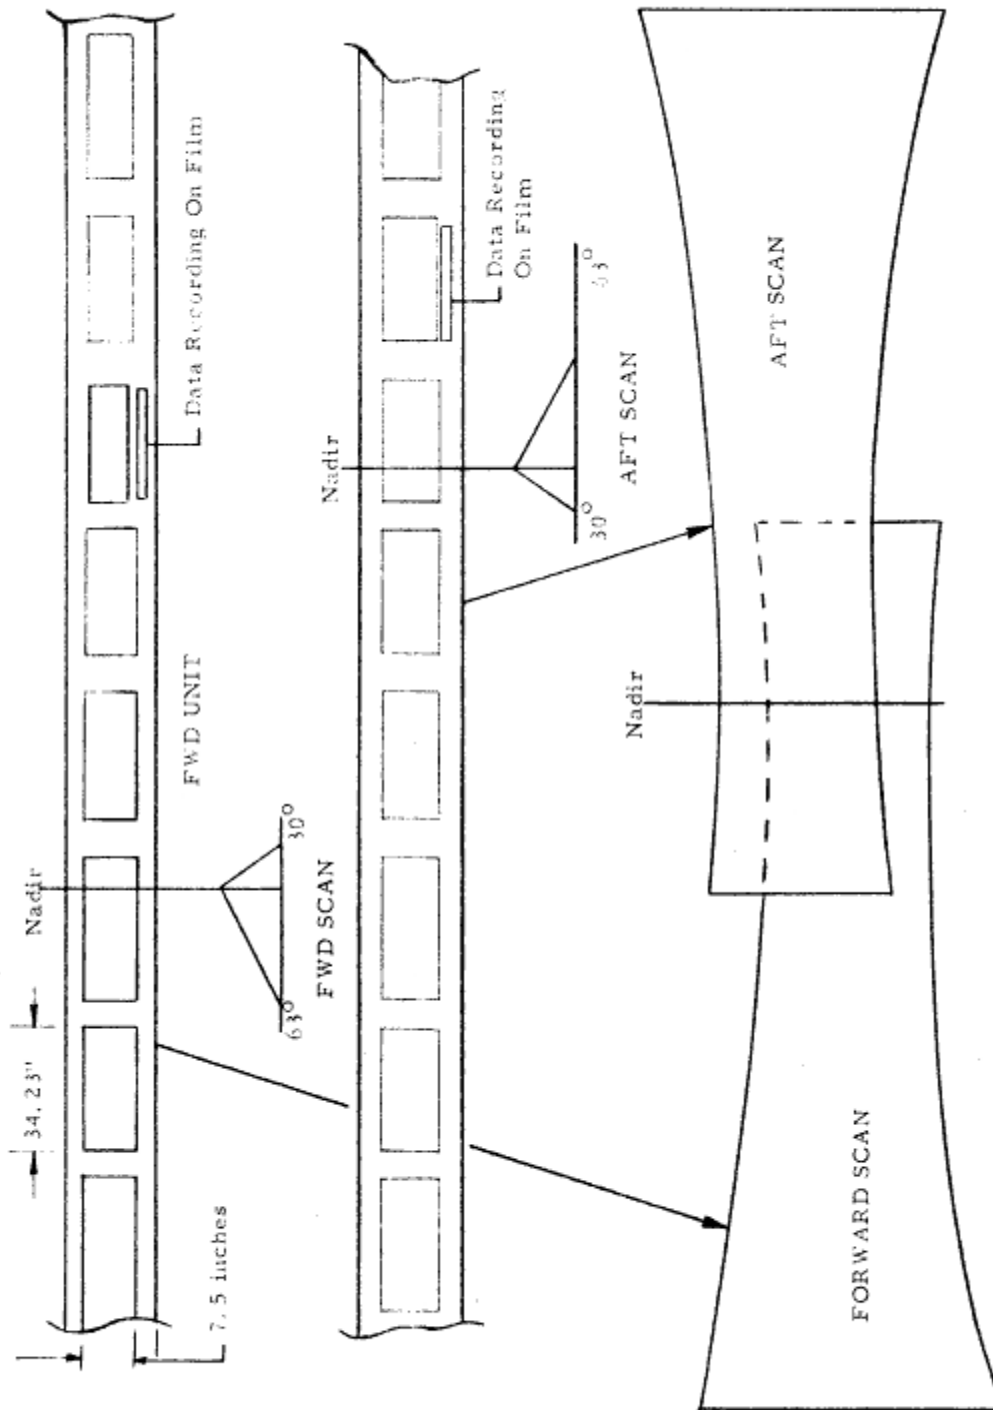

Figure 2-7. Type II Package Format Relationship To Ground Coverage Pattern
- 2-24. Results of the Type II camera systems are panoramic photographs as shown in Figure 2-7. Photographs from the forward camera and corresponding photographs from the aft camera are aligned as shown also in Figure 2-7, along with the associated data information recorded alongside of each frame. Approximately 1414 photographs with recorded data can be expected from a full film supply of 4200 feet from each camera. Film width is 7.95 inches. Individual frame dimensions are 7.5 inches by 34.23 inches.